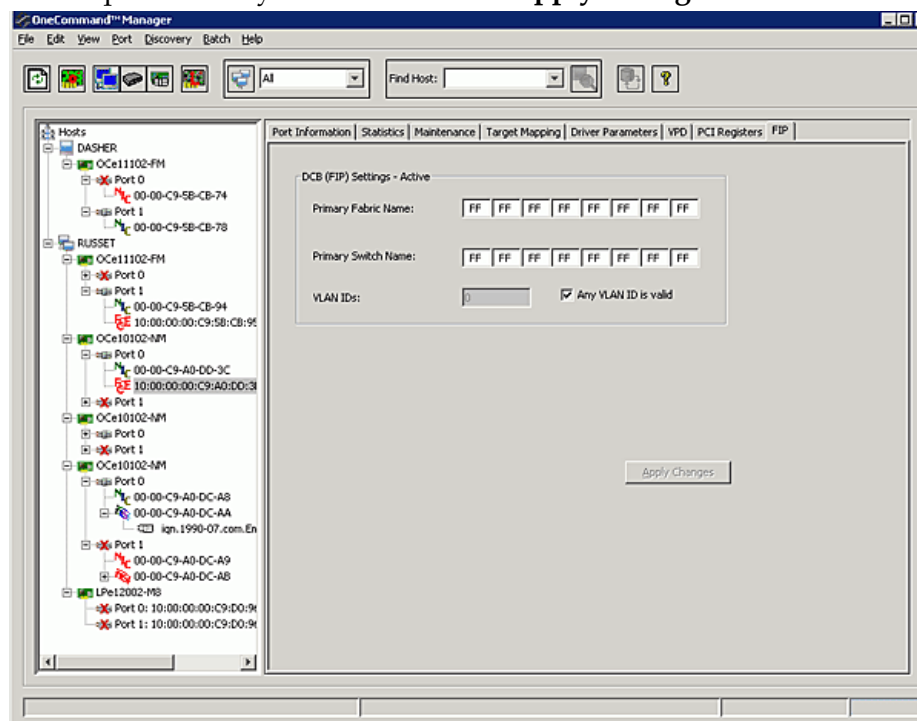

Figure 8-35 FIP Tab for FCoE Adapters
2. Select the **FIP** tab (Figure 8-35 on page 164).